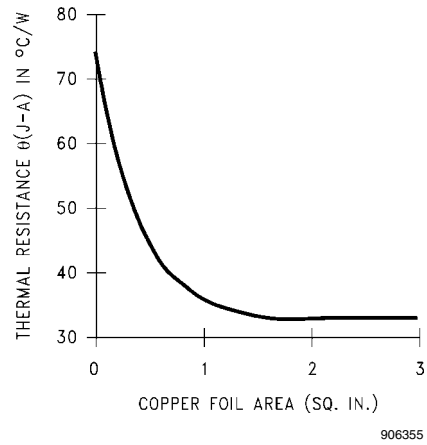

FIGURE 7.  $\theta_{(J-A)}$  vs Copper (1 ounce) Area for the TO-263 Package
*Figure 7* shows for the TO-263 the measured values of  $\theta_{(J-A)}$  for different copper area sizes using a typical PCB with 1 ounce copper and no solder mask over the copper area used for heatsinking.
As shown in *Figure 7*, increasing the copper area beyond 1 square inch produces very little improvement. It should also be observed that the minimum value of  $\theta_{(J-A)}$  for the TO-263 package mounted to a PCB is  $32^{\circ}\text{C/W}$ .